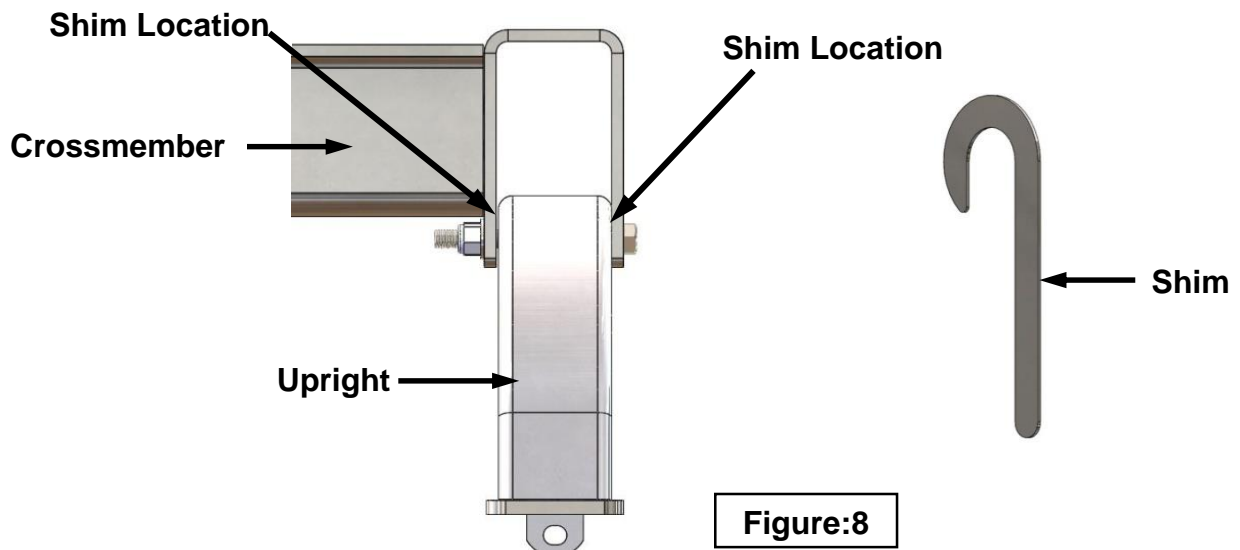

Figure:8
17. Check each rail hitch pin for freedom of movement in the bed rail connection. Adjust uprights, if necessary, by placing shim 31582 or 30243 between the upright and the cross member to obtain free pin movement. See Fig. 8. Shims 31582 & 30243 sold separately.